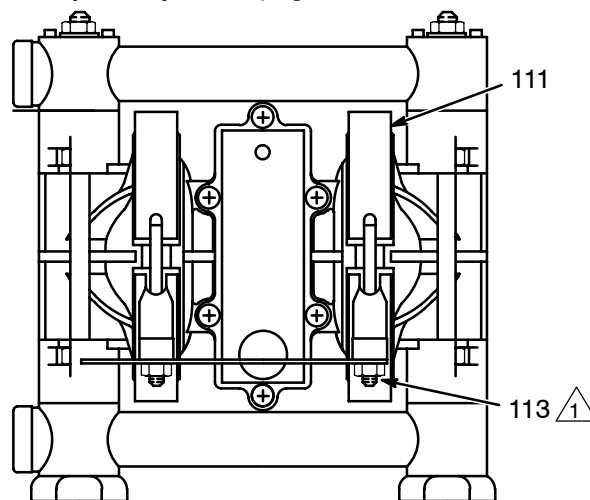

Fig. 4
When tightening the clamps (111), apply thread lubricant to the bolts and **be sure** to torque the nuts (113) to 50 to 60 in-lb (5.6 to 6.8 N•m). See Fig. 4. See **Torque Sequence**, page 26.